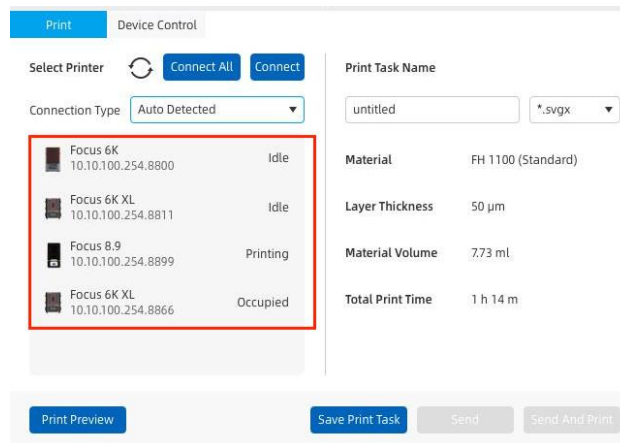

Figure 29 Machine interface diagram after successful connection
- Select a machine and click [Connect] or click [Connect All] to connect one machine or all machines. After successful connection, machine status information will appear in the list, such as: Idle, printing, occupied (depending on the actual state), as shown in Figure 29.